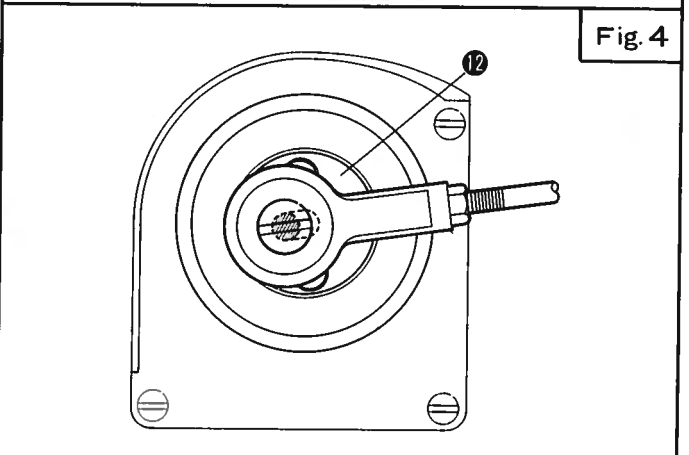

Fig. 4
3. Tighten Screws ④ securely.
4. Set Nut ⑦ and Washer ⑥ at the center of the long groove of Lever ⑧.
6. Set Washer ⑩ and Screw ⑨ in the groove end of Eccentric ⑫ (Fig. 4). See ADJUSTING THE FEED AMOUNT OF ROLLER ⑰ below.
7. Set Lever ⑮ with Screws ⑬ for Foot Lift Lever ⑭.